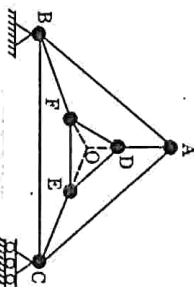

Fig. 2.4.2.
2. In Fig. 2.4.2, when an external load is applied to joint D, E or F can cause the truss DEF to rotate slightly i.e., internally unstable.